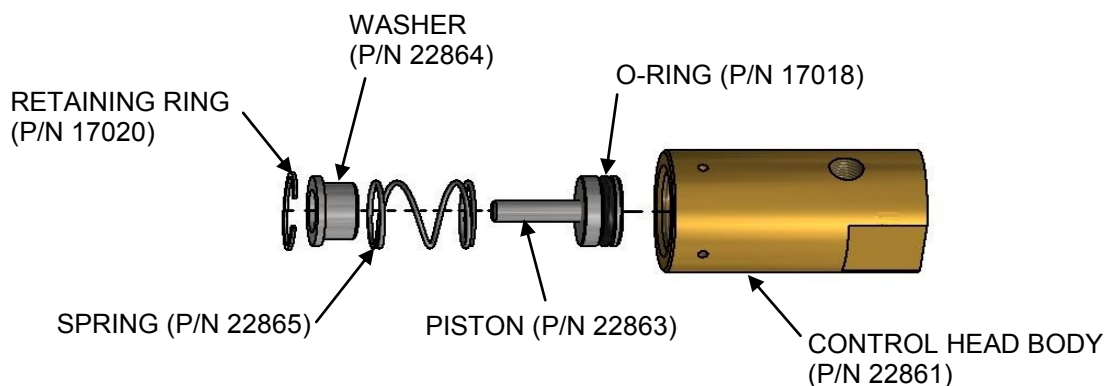

Figure 6.2.1.5
12. Insert Washer (P/N 22864) in the direction as shown on Figure 6.2.1.5.